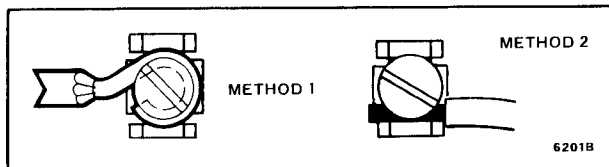

FIG. 11—WRAP WIRE AROUND SCREW (METHOD 1) OR INSERT WIRE FROM THE SIDE (METHOD 2).
2. inserting wire from side (see Fig. 11).